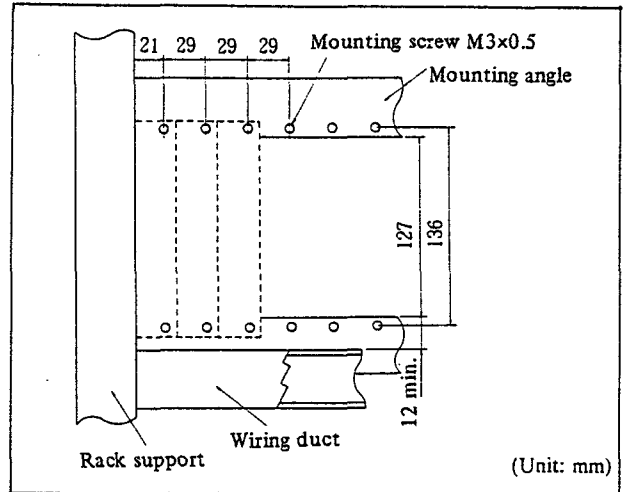

Figure 2. Direct Rack Mounting
- (1) When installing in the HB-16 Rack mounting enclosure, follow the Model HB-16 instruction manual.
- (2) When installing directly on an instrumentation panel, prepare mounting angles referring to Figure 2. When the repeater is shielded with a metallic case, ground the case.